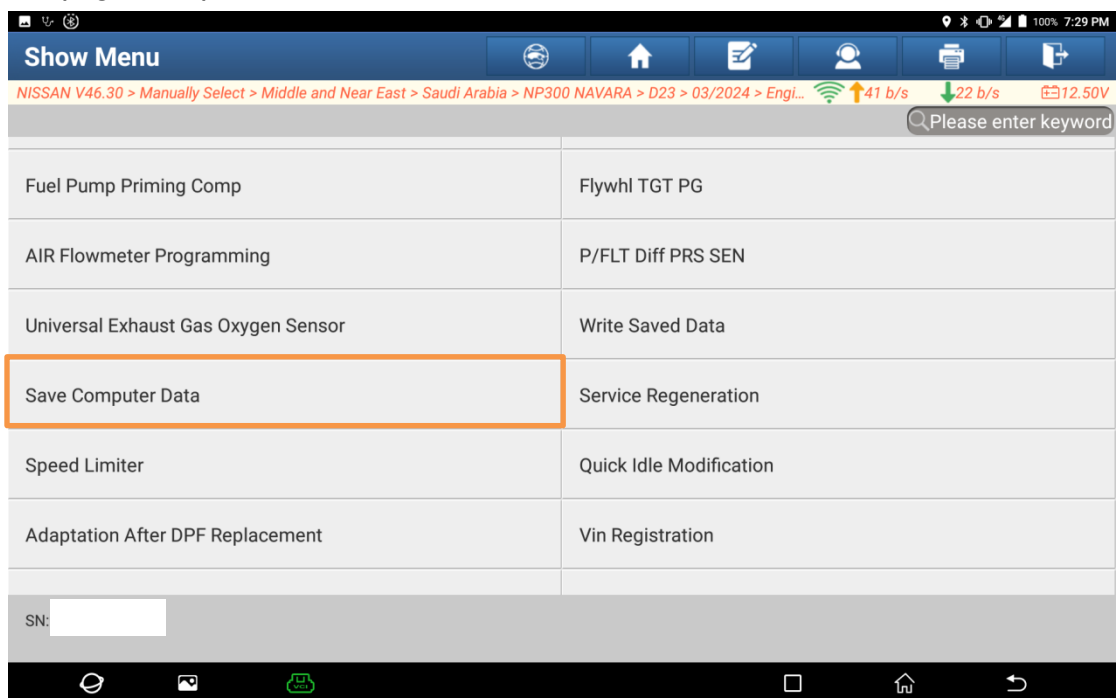

Figure 12
7. On the [WORK SUPPORT] menu interface, choose [Save Computer Data] (Figure 12).